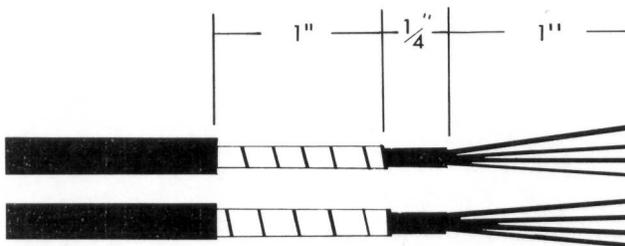

Fig. 14
- 7.01 Prepare the ends of B Service Wire or D Underground Wire as shown in Fig. 14.